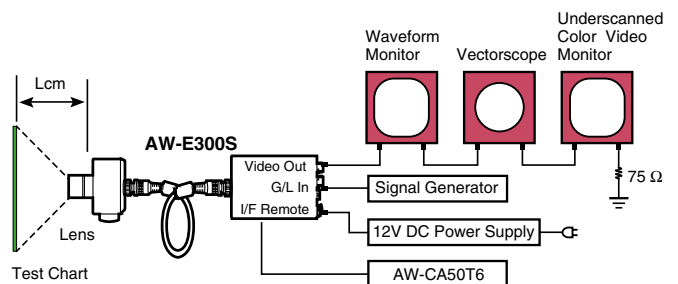

Fig. 3-1
- The Fig. 3-1 shows the connection diagram for the adjustment procedure.